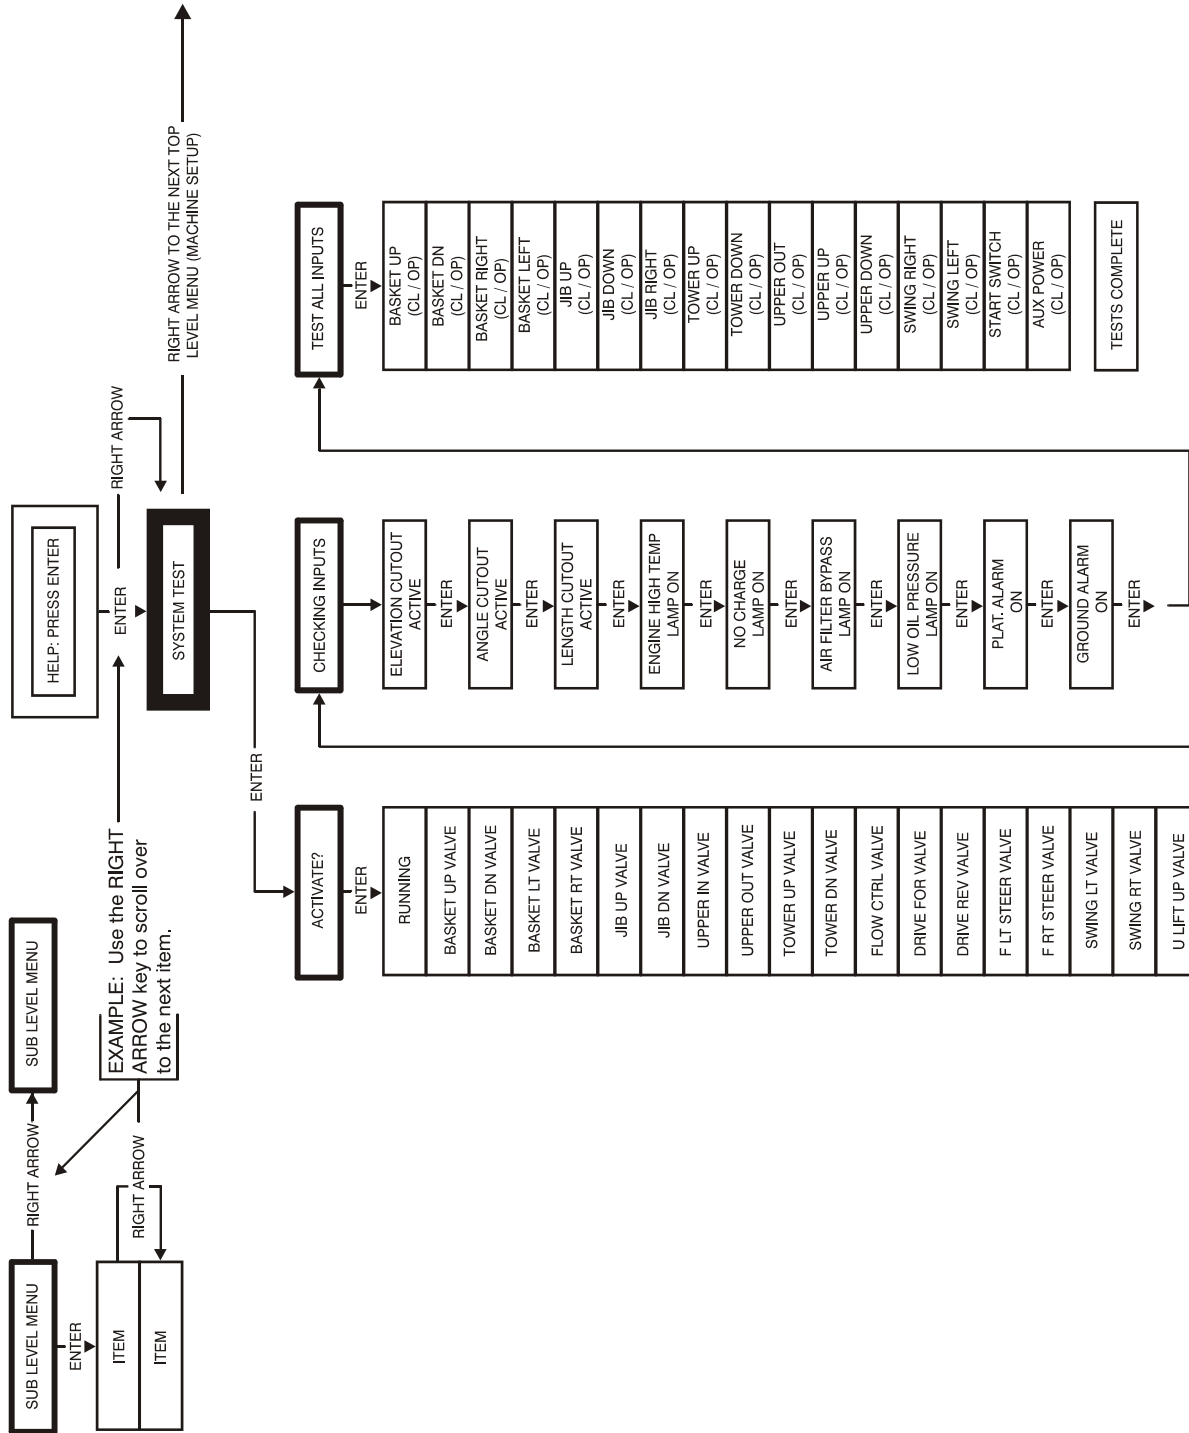

Figure 6-14. System Test Flow Chart - Ground Station Tests
6. Follow the flow path in Figure 6-14., System Test Flow Chart - Ground Station Tests and go through the component tests. Hit the ESC key during any part of the test to return to the main menu without completing all tests or wait until all tests are complete. During the TEST ALL INPUTS sequence, the analyzer allows control switches to be operated and shows if they are closed (CL) or open (OP).